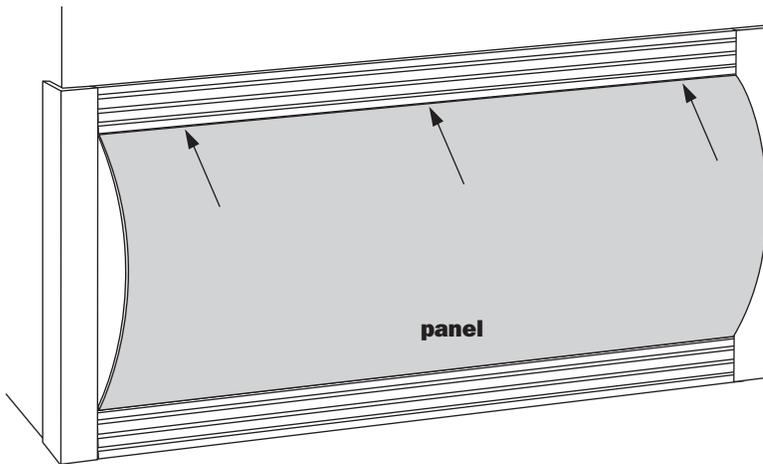

figure 5
- Bow the panel out at the center and slide the top edge into the rabbet in the back of the top rail (**see figure 5**).